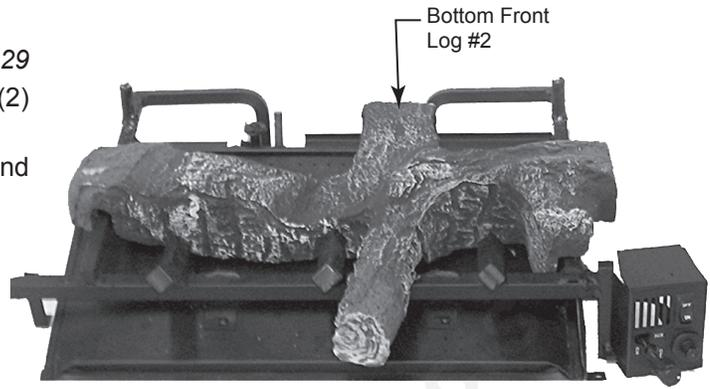

Figure 29
1. Place bottom front log (#2) on front of grate. *Figure 29*